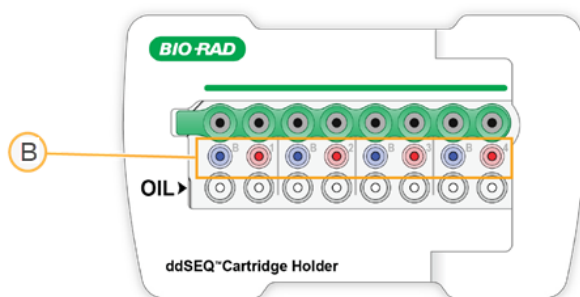

Fig. 7: ddSEQ Priming Solution wells
2. Using a P20 multi-channel pipette, transfer 20 μ l of ddSEQ Priming Solution from the 8-tube strip to each well in the second row of the cartridge (B), as shown in Fig. 7.
2. Using the same tips, aspirate 20 μ l of the Barcode Suspension Mix and Enzyme Suspension Mix and load into the alternating blue and red ports, respectively, in the middle row of the ddSEQ cartridge (see Fig. 7).